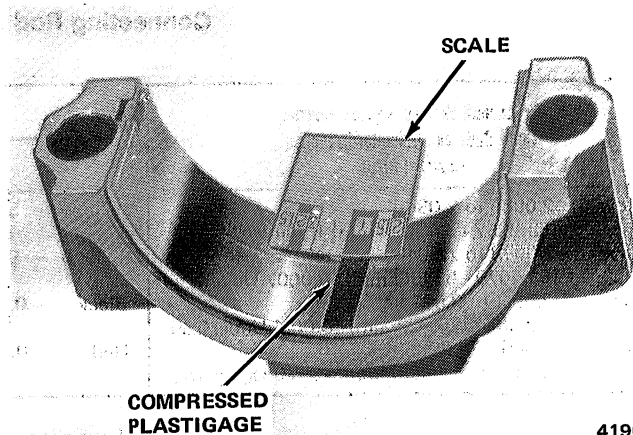

Fig. 1B-136 Connecting Rod Bearing Clearance Measurement with Plastigage
- (5) Remove bearing cap and determine amount of clearance by measuring width of compressed Plastigage with scale on Plastigage envelope (fig. 1B-136).